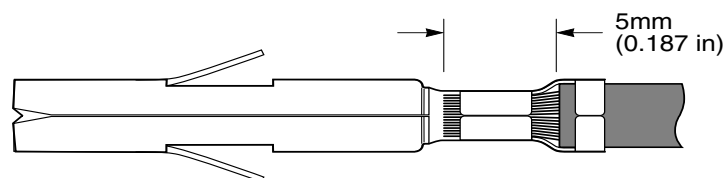

Figure C4-9. View of crimped connector pin
- b.** Crimp the connector pins to the wires according to standard procedures. Figure C4-9 shows a crimped connector pin. The connector pins can accept a wire size up to 1.2 mm (0.05 in). If possible, use a crimping tool such as Molex Hand Crimping Tool 11-01-0084.